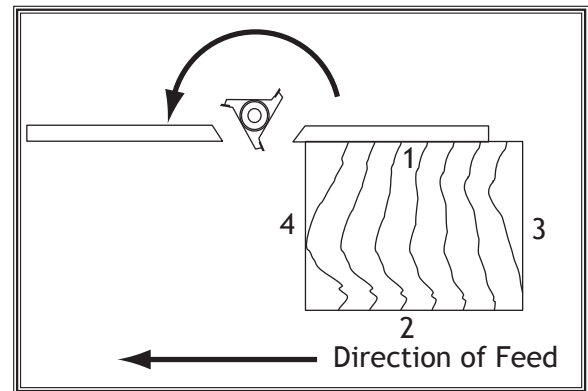

Figure 34. Sequence for shaping an edge around a workpiece.
1. Cut the workpiece (sides 1 & 2) with the end grain *first* (see **Figure 34**).
2. Cut the sides *with* grain (sides 3 & 4) last, or in sequence, as shown in **Figure 34**.